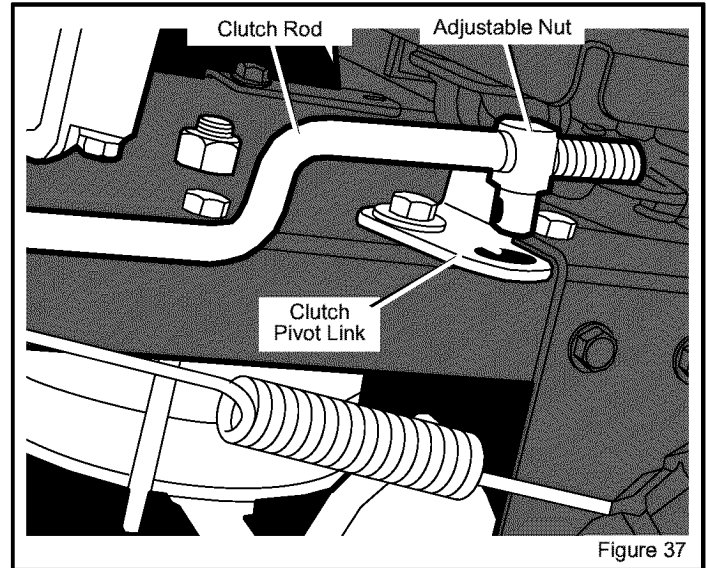

Figure 37
2. Remove the **cotter pin** and **washer** from the **adjustable nut** (Figure 37).